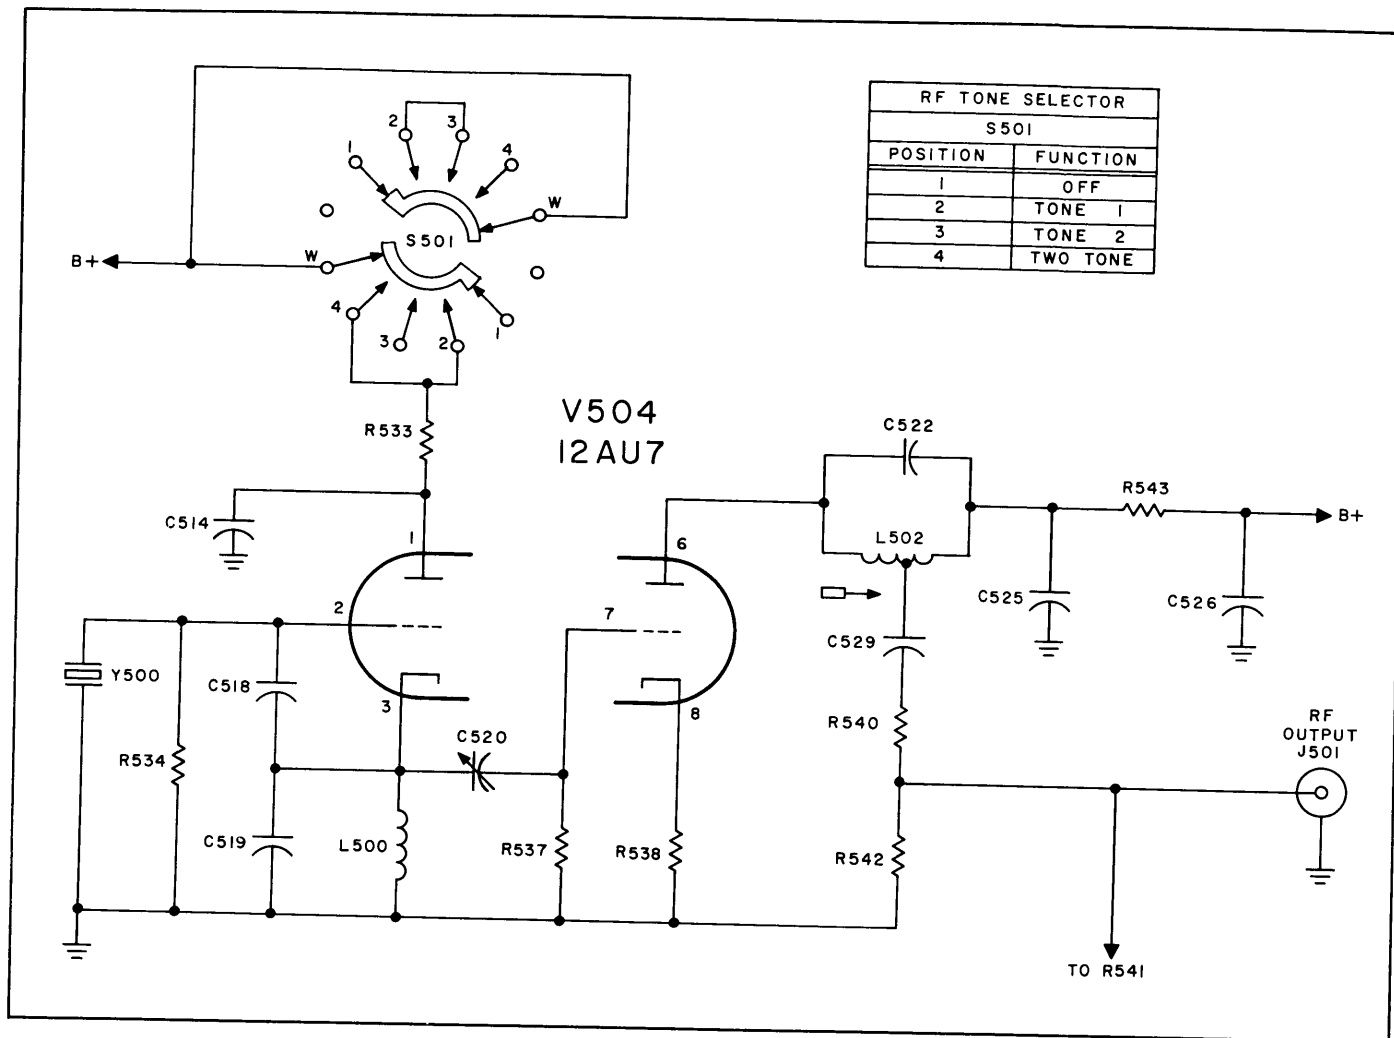

Figure 4-5. Schematic Diagram, R-F Oscillator and Amplifier, TTG-2
c. DETAILED CIRCUIT ANALYSIS, R-F OSCILLATOR AND AMPLIFIER. - Refer to figure 4-5. The 1999 kc and 2001 kc oscillator and amplifier stages used in the TTG-2 are identical; therefore the 1999 kc stage is shown.